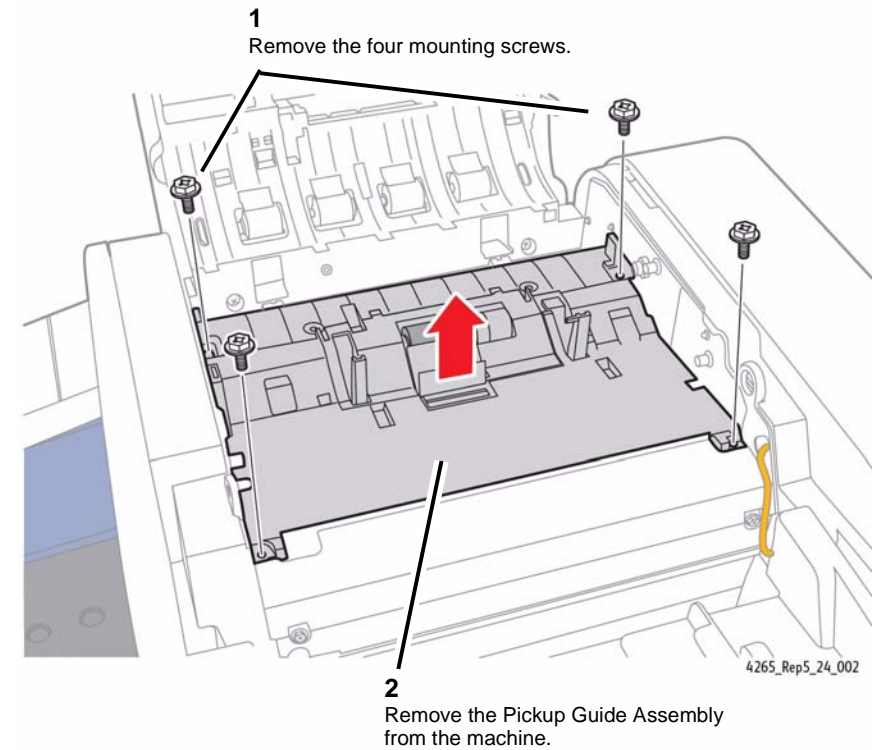

Figure 2 Removing the Pickup Guide Assembly
4. Remove the Pickup Guide Assembly from the machine (Figure 2).